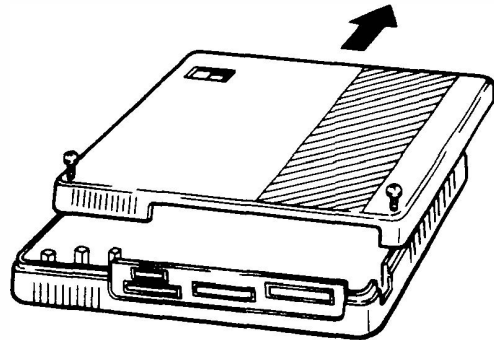

Figure 200-13 Removing KSU Cover
- Push the cover upward until it comes off as shown in Figure 200-13 Removing KSU Cover.